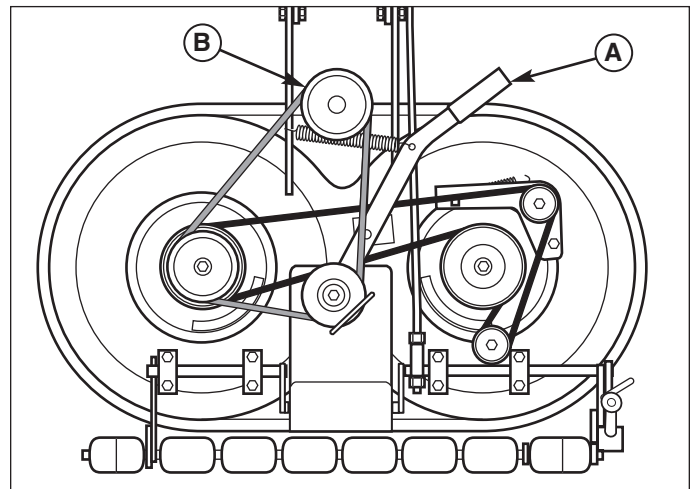

Figure 10. Removing & Installing Belt
5. Release belt tension with arm (A). Remove belt from PTO pulley (B, Figure 10).
7. See Figure 10. Move idler arm (A) to relieve belt tension. Install belt onto the PTO pulley (B).